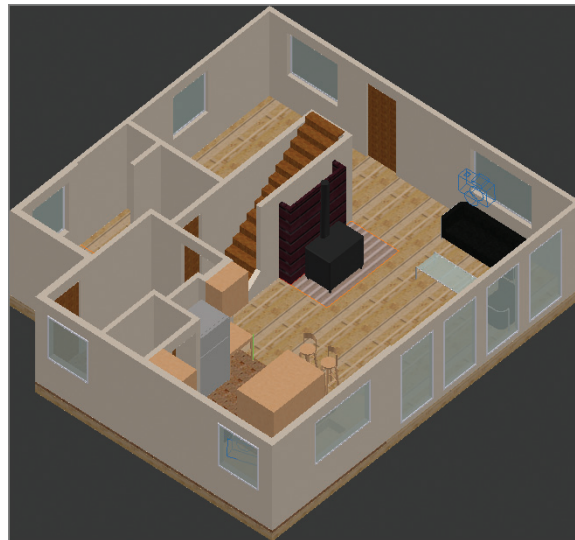

FIGURE 18.5 Using the realistic visual style to display materials' texture maps
7. Texture maps do not normally appear in the viewport in the Shaded With Edges visual style. Select Realistic using the in-canvas Visual Style Controls menu. Figure 18.5 shows the texture maps in the viewport.